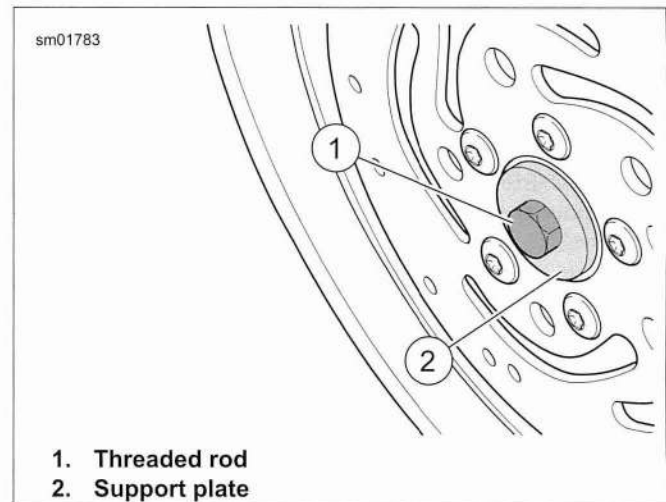

Figure 2-17. Assembling Installation Tool
- b. See Figure 2-17. Place threaded rod (1) through support plate (2). Insert assembly through wheel.